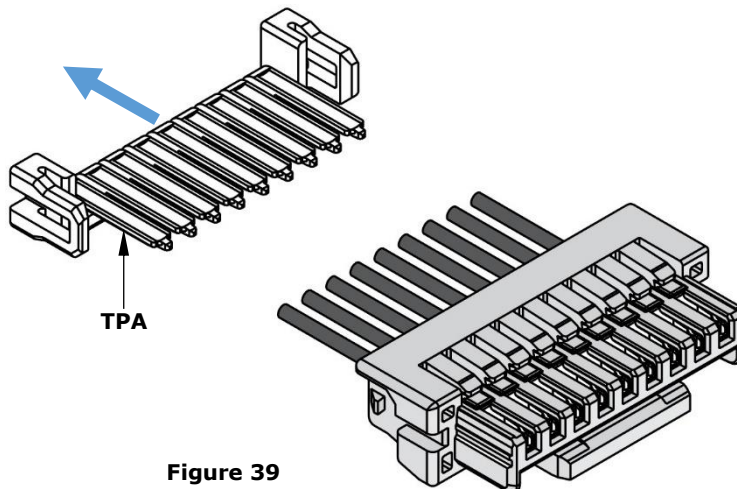

Figure 39
4. Once the TPA has been loosened, remove it completely. See Figure 39.